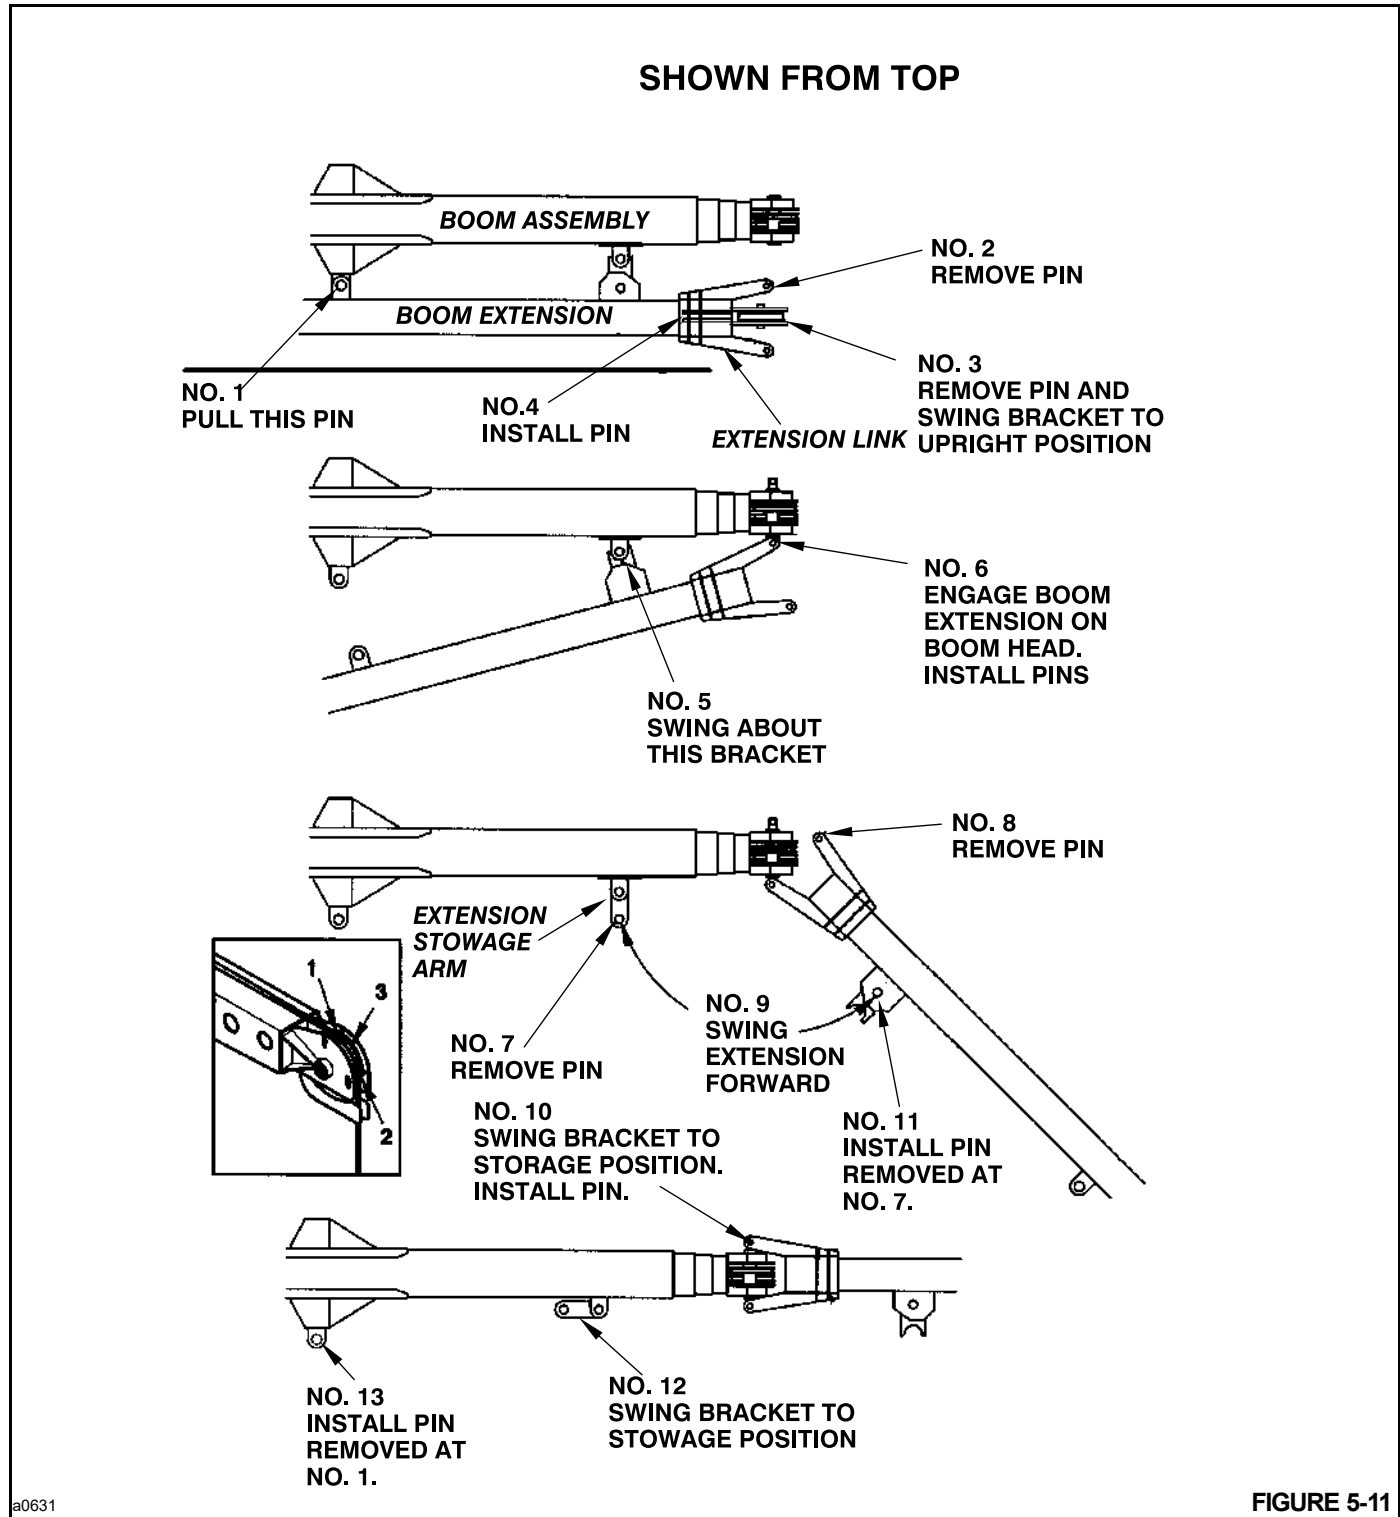

FIGURE 5-11
5. Remove the pin from the boom extension anchor bracket (Location No. 1 in Figure 5-11).
10. Remove the two pins (1 and 2, Inset - Figure 5-11), and place the wire rope over sheave (3). Install pins (1 and 2).
2. Remove the two pins (1 and 2, Inset - Figure 5-11).
5. Remove pins at location No. 10, Figure 5-11, and swing the boom extension backward. Install pins removed at location No. 10 in extension link to prevent them from becoming lost.